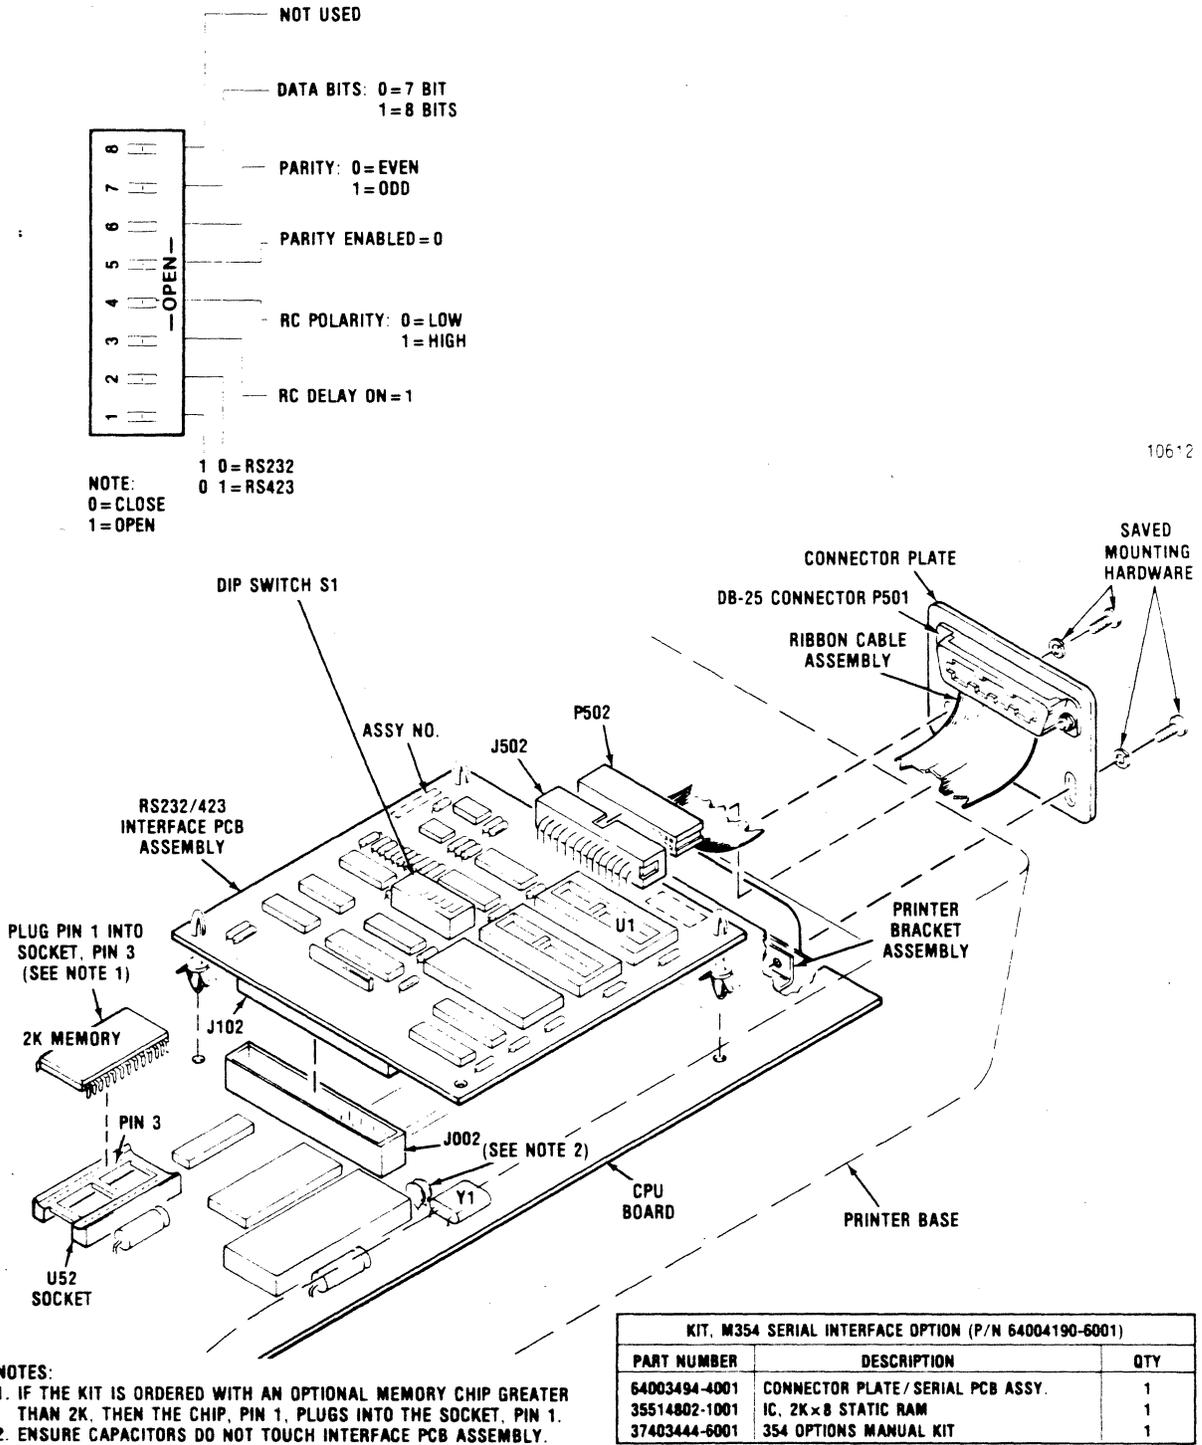

Figure 4-2 M354 Serial Interface Kit/Installation
As shown in Figure 4-2, the M354 Serial Interface Option is a kit that consists of a 2K memory chip (8K Optional), an RS232/423 Interface PCB assembly with three self-locking standoffs, and a detachable ribbon cable/connector bracket assembly. The connector plate has a standard DB-25, EIA RS232, 25-pin socket connector (P501) that receives the external data transmission cable from the host device. For details on the pin assignment of connector P501, refer to paragraph 4.5.
To install the kit, refer to Figure 4-2, and proceed as follows:
2. With a grounded "drain wire" in one hand to avoid a static discharge, carefully plug in the memory chip into socket U52 on the CPU Board with the chip, pin 1, in socket, pin 3, as shown in Figure 4-2.
The Dual In-Line Package (DIP) switches S1, S3, and S4 are used to select and configure the serial interface. DIP switch S1 is located on the serial interface board as shown in Figure 4-2. DIP switches S3 and S4 are located on the CPU Board as shown in Appendix A.